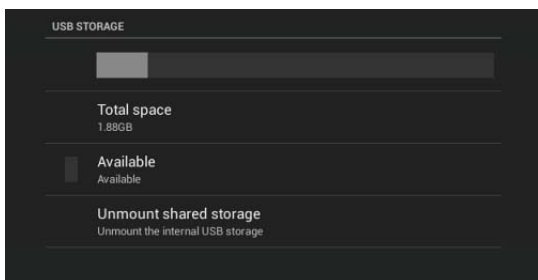

FIG. 12 USB Storage
- If a USB storage option is connected to the panel, the USB Storage section will display the panel's total used space and total available space, as well as give the option to unmount the storage device (FIG. 12).
2. This opens the *Unmount USB storage?* window (FIG. 12):